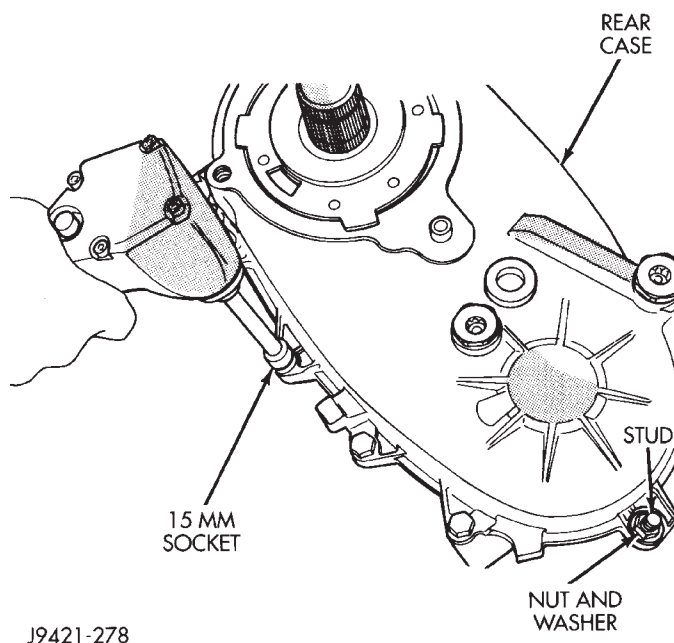

Fig. 15 Removing Case Attaching Bolts
- (1) Remove output bearing retaining ring with heavy duty snap ring pliers.
(2) Remove output shaft bearing.
(3) Note position of bolts that attach rear case to front case (Fig. 15). Some bolts/studs at ends of case require flat washers. Mark position of these bolts with paint or scribe.
(4) Remove rear case-to-front case bolts.